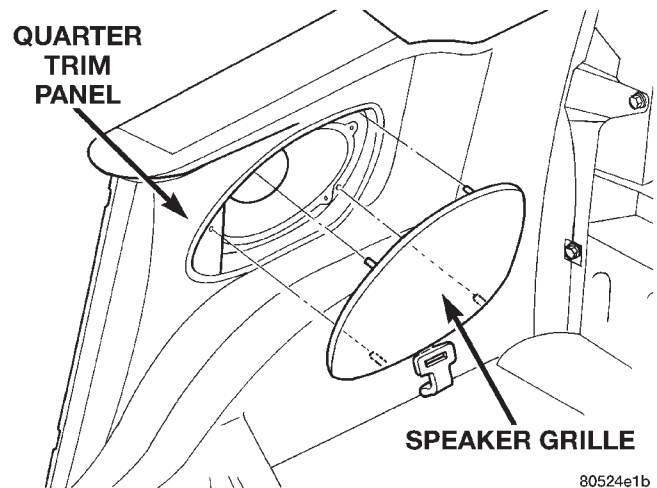

Fig. 60 Speaker Grille
- (1) Lower convertible top.
- (2) Remove rear seat cushion and rear seat back.
- (3) Remove door sill trim panel.
- (4) Remove push-in fastener holding quarter trim panel to door sill panel.
- (5) Remove speaker grille (Fig. 60).